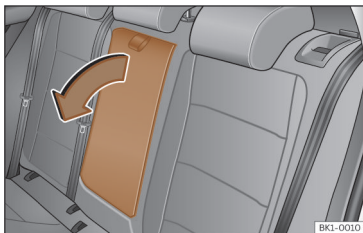

Fig. 76 Folding rear centre armrest (schematic view).
- To lower the armrest, pull the cord in the direction of the arrow >>> **Fig. 76**.